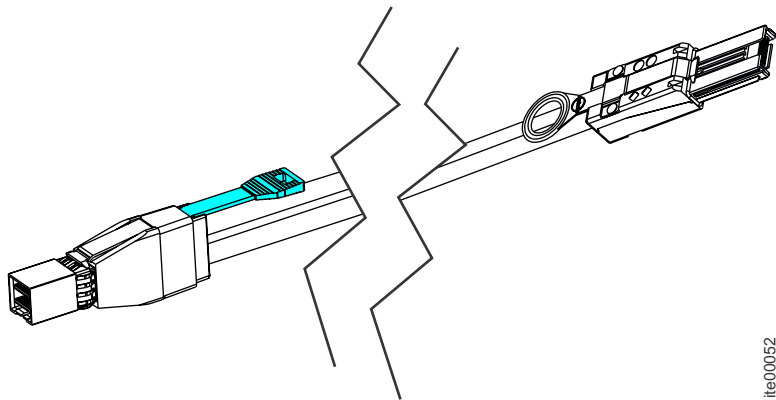

Figure 34. Mini SAS HD to Mini SAS cable
- Mini SAS HD to Mini SAS (Figure 34 on page 43)